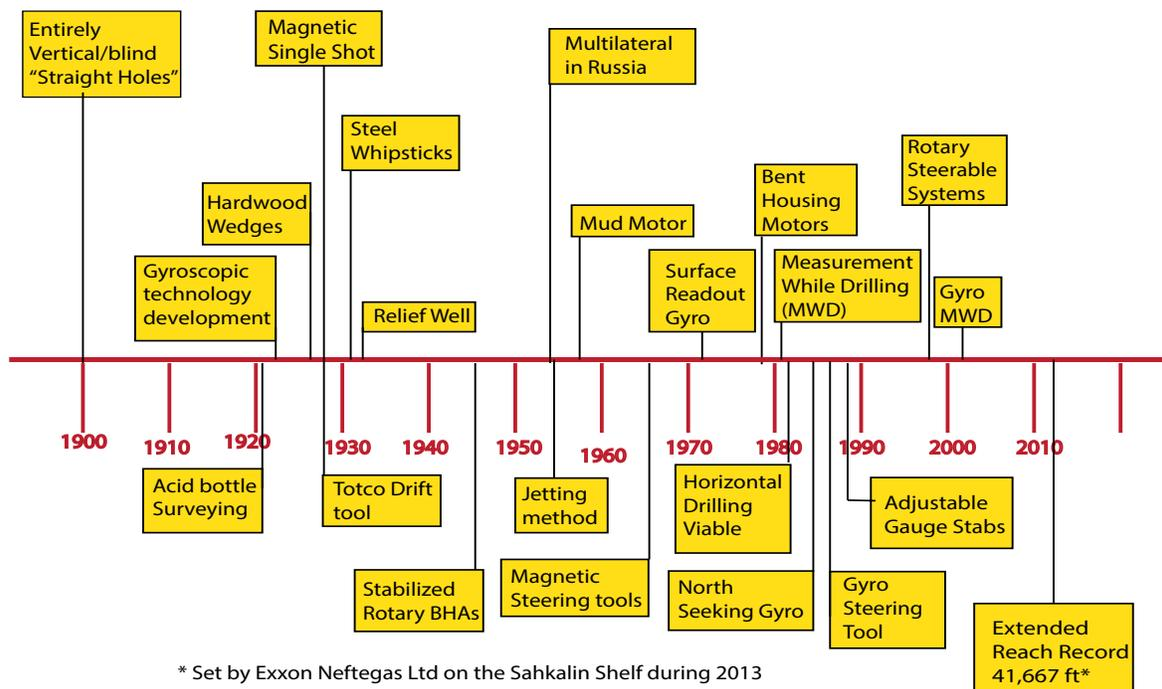

Figure DD-1: Evolution of directional drilling.
Directional drilling is the science of controlling or correcting a wellbore, along a predetermined trajectory, to one or more underground targets or locations at given horizontal displacements (HD) and true vertical depths (TVD) from the point of origin. The central advantage of drilling directionally is that significantly more of the production formation is exposed to the well, compared to vertical wells (**Figures DD-1 and DD-2**).